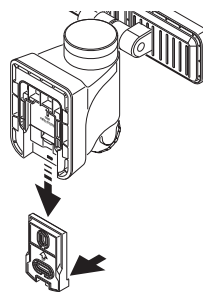

Figure 2
1. Press the bottom tab of the wall mounting plate and slide the mounting plate from the light body (see Figure 2).